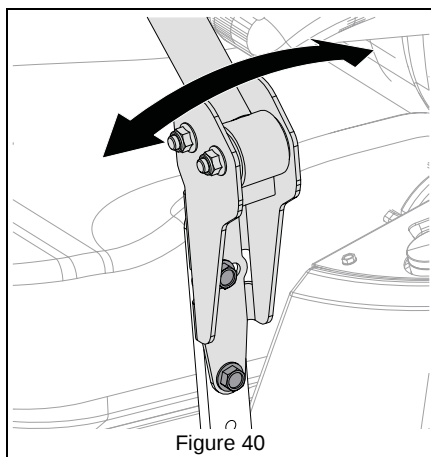

Figure 40
3. Loosen mounting hardware, align levers and tighten hardware. See Figure 40.
See Figure 40.